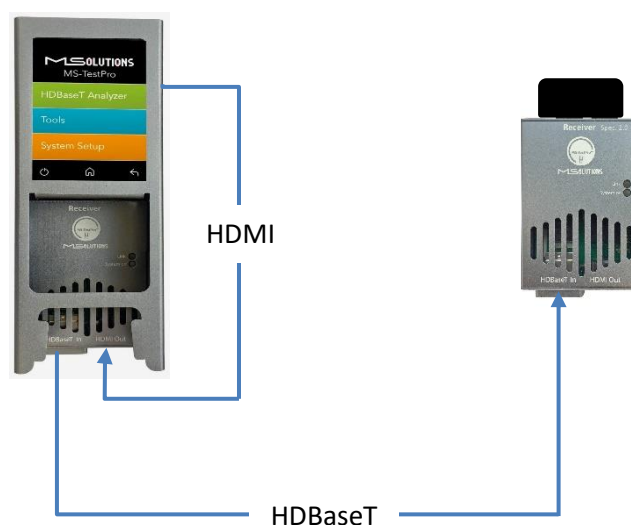

Figure 33: Cable Test Setup
1. Connect the MS-TestPro test device to both ends of the CATx cable, as shown below in Figure 33: